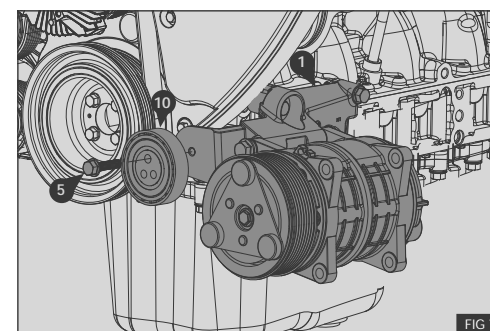

FIG 7
5. Fit the supplied Eccentric pulley ⑩ to the mount bracket ① using bolt ⑤ M8 x 35, do not tighten at this stage - Fig 7